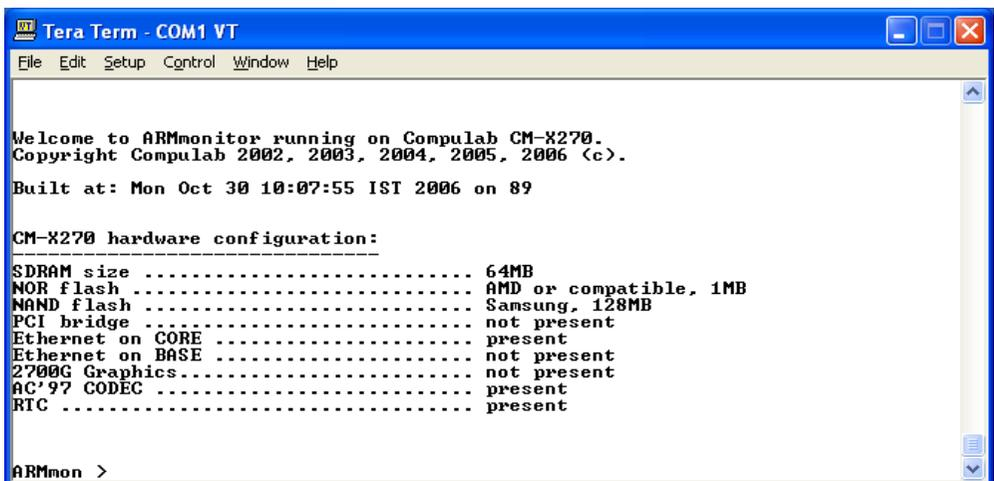

Figure 119:
19. Disconnect **the cables from USB** ports and reset the SBC. Then, press CTRL C until the following window appears (Figure 119).
20. In the "TeraTerm" window (Figure 119), enter the command "STEP BY STEP > Setboot OS > Save > Y"